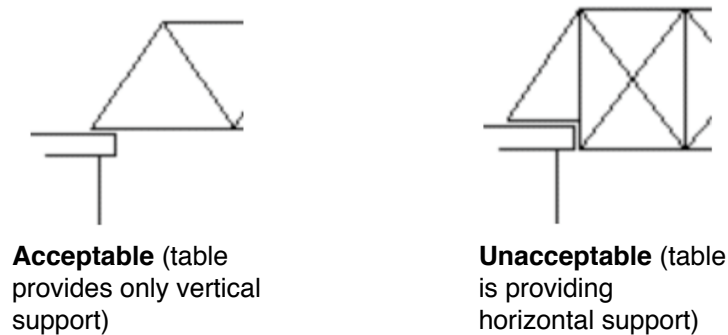

Figure 2: Acceptable and unacceptable contact with the table surface.
- The bridge must contact only the top surfaces of the support tables on either side. The bridge may not be anchored to either support table except by gravity. The bridge may not contact any other surface of the support tables, or the floor, ceiling, walls, or other object (Figure 2).